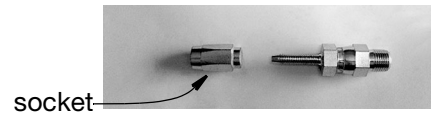

FIG. 64
3. Remove two hose fittings from their package and disassemble the two pieces (FIG. 64).